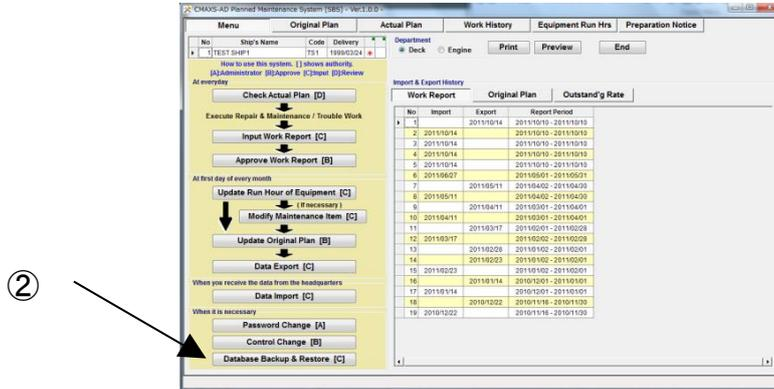

Fig.15-3 Menu Screen
(2) Select [Database Backup & Restore] button on the "Menu Screen"(Fig.15-3).
1. Select [Filter] button on the “Original Plan Screen”(Fig.15-3).